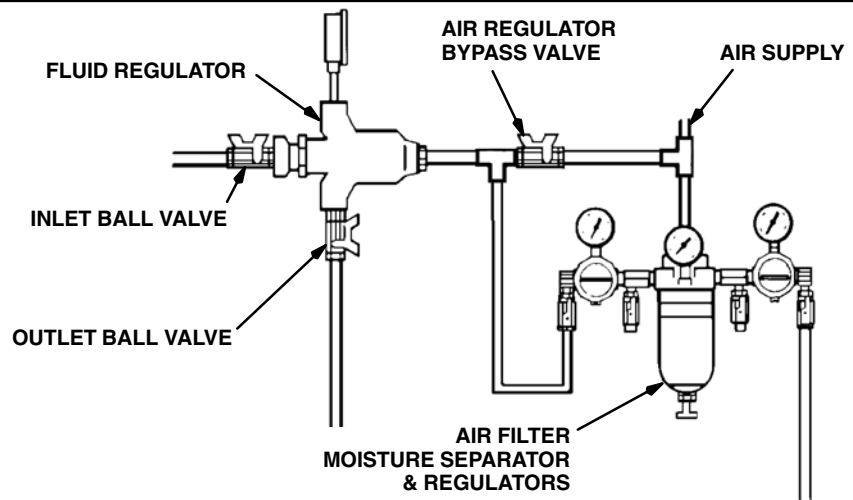
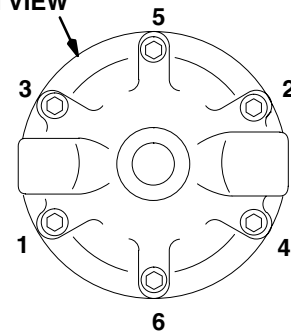

Fig. 2
Fig. 4
1. Start the pump and open the fluid regulator's inlet ball valve to admit fluid to the regulator. See Fig. 2.
2. Close the ball valve at the regulator's air inlet. Refer to Fig. 2.
5. Remove the swivel union (23) and spring (40) from the regulator body.
6. Remove the ball (20), seat (16), and gasket (15). See Fig. 4.
10. Remove the spring (3), valve stem (9), and gasket (21) from the stem housing (18).
12. Place stem housing (18) in a vise. One at a time, place the gasket (26), diaphragm (22) – *white PTFE side down toward the bottom housing*, and washer (17) on the stem housing (18). Secure them with the jam nut (13). Torque the jam nut onto the stem housing to 21–35 ft-lb (28–47 N•m).
13. Install the valve stem (9), spring (3), gasket (21), and retaining screw (10) in the stem housing (18). Make sure the tab on the valve stem (9) fits into the slot on screw (10).
15. Install the assembled parts in the housing (6).
16. On Model 214980, tighten the air line fitting (29) into the cap (7). Torque to 21–35 ft-lb (28–47 N•m).
17. Install the cap (7). Tighten the six cap screws (1) in the sequence shown in Fig. 4, **Bottom View**, and to the torque noted.
18. Install the gasket (15), valve seat (16), and ball (20) into the housing (6).